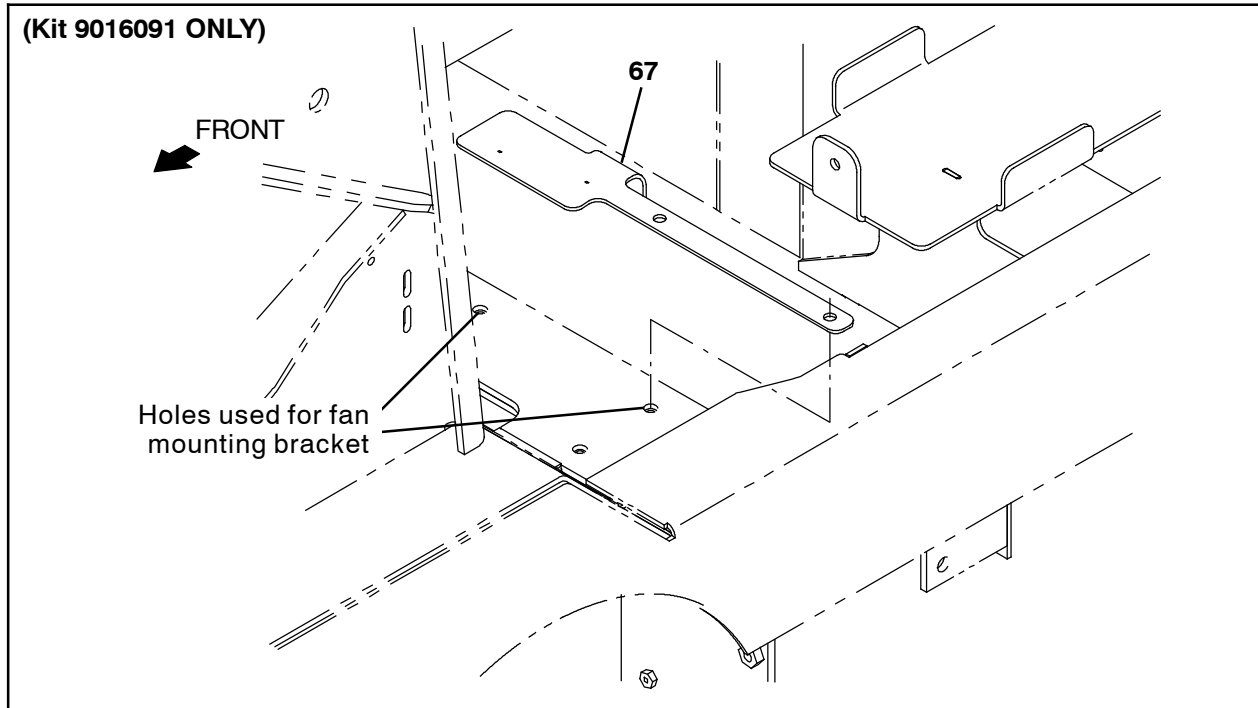
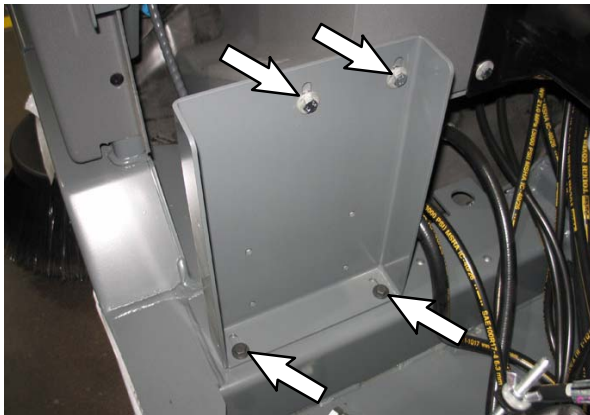
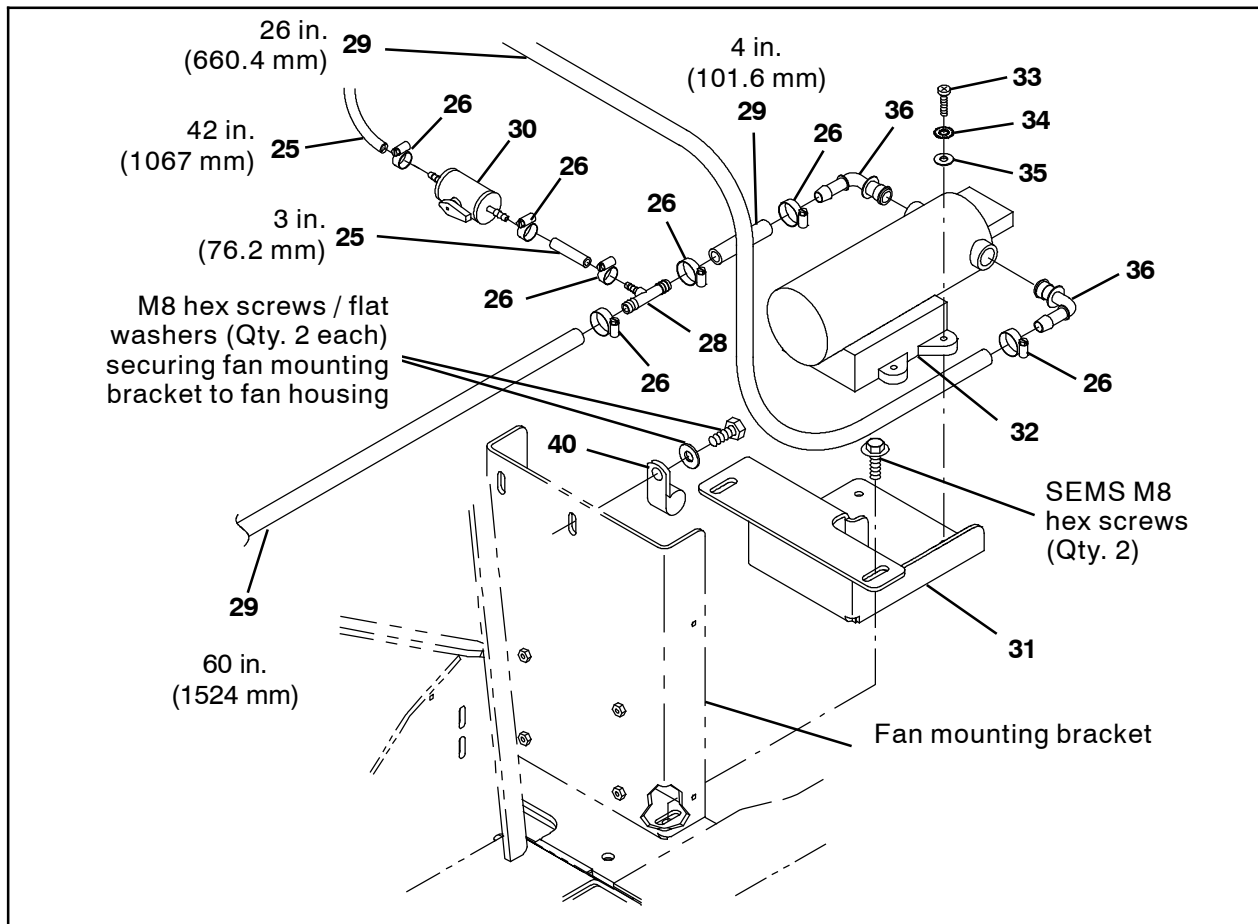

FIG. 1
FIG. 2
FIG. 3
1. **(Kit 9016091 ONLY):** Remove the fan mounting bracket from the machine. Set the fan mounting bracket, both SEMS M8 hex screws, and the M8 hex screws / flat washers aside. (Fig. 1 / Fig. 3)
2. **(Kit 9016091 ONLY):** Align the two larger holes in the drill template (67) with the two existing holes where the fan mounting bracket was previously installed on the frame of the machine and drill two 9/32 in. (7.50 mm) holes through the frame of the machine. (Fig. 1 / Fig. 2)
4. Thread two nylon fittings (36) into the solution pump (32). (Fig. 3)
5. Cut a 4 in. (101.6 mm) length of PVC hose (29).
6. Use a hose clamp (26) to connect the 4 in. (101.6 mm) PVC hose (29) to the nylon fitting (36) installed on the solution pump (32). (Fig. 3)
7. Use a hose clamp (26) to connect the plastic t-fitting (28) onto the 4 in. (101.6 mm) PVC hose (29). (Fig. 3)
8. Cut a 60 in. (1524 mm) length of PVC hose (29).
9. Use a hose clamp (26) to connect the 60 in. (1524 mm) PVC hose (29) onto the plastic t-fitting (28). (Fig. 3)
10. Cut a 3 in. (76.2 mm) length of PVC hose (25).
11. Use a hose clamp (26) to connect the 3 in. (76.2 mm) PVC hose (25) onto the plastic t-fitting (28). (Fig. 3)
12. Cut a 26 in. (660.4 mm) length of PVC hose (29).
13. Use a hose clamp (26) to connect the 26 in. (660.4 mm) PVC hose (29) to the nylon fitting (36) installed on the solution pump (32). (Fig. 3)
14. Use four M5 pan screws (33), four lock washers (34), and four flat washers (35) to install the solution pump (32) onto the pump mounting bracket (31). (Fig. 3)
15. Use the SEMS M8 hex screws to install the solution pump (32) / pump mounting bracket (31) and the fan mounting bracket onto the frame of the machine. (Fig. 3)
16. Reinstall one M8 hex screw and flat washer to secure the fan mounting bracket to the fan housing. (Fig. 3)
17. Use the remaining M8 hex screw and flat washer to install the cable clamp (40) onto the fan mounting bracket. Do not completely tighten the M8 hex screw. (Fig. 3)
18. Use a hose clamp (26) to connect the shutoff valve (30) to the 3 in. (76.2 mm) PVC hose (25) connected to the plastic t-fitting (28). (Fig. 3)